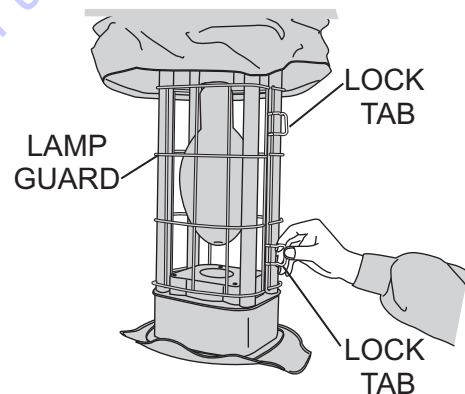

Figure 34. Releasing Lamp Guard Locking Tabs
5. Release the lamp guard locking tabs (Figure 34).